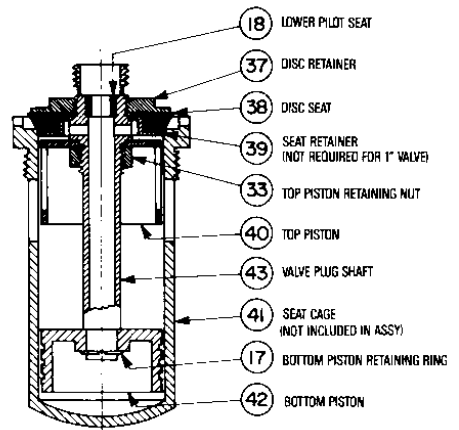

FIGURE 11 - MAIN VALVE ASSEMBLY (Item 41 not included)
- d) Assemble the Valve Stem Retaining Nut (19) (See Figure 10) on to the Valve Plug Shaft (43) (See Figure 11). Hold the shaft (43) with a pair of pliers firmly and carefully without damaging the Shaft - and turn the Nut (19) on to the Shaft (43) tight enough to hold but without using force - Using Loctite 648
- DR31 Clean gasket surfaces on valve body (45) and Valve Top (23). If necessary use a wire brush or emery cloth.
- DR32 Fit a new Bellows Gasket (9) into the Valve Body gasket recess.
- DR33 Carefully insert the entire inner valve assembly, complete with Bellows Housing, straight down into the valve body and into the seat cage. Locate Bellows Housing in Valve Body recess, and replace screws (8) through holes in Bellows Housing into Valve Body. Tighten evenly all round to make a leak tight joint.
- DR34 Insert the Servo Spring (11) into the Bellows (10) and fit a new Bellows Gasket (9) on the Bellows (10) gasket surface.
- DR35 Carefully replace the Valve Top (23) - as assembled in step DR18 - on to the Bellows Housing so that the Isolation Tube (assembled to the Top (23)) fits down over the Upper Valve Pilot Stem (46) within the Bellows (10).